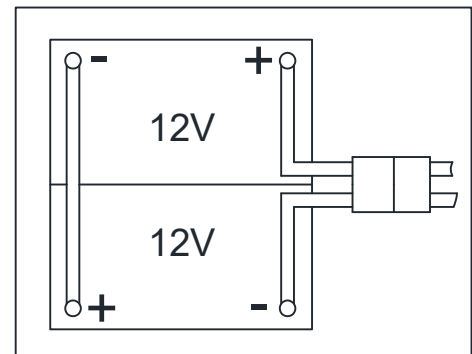

Figure 3
The machine requires two 12 V batteries, connected according to the diagram (Figure 3).
1. Open the recovery tank cover (1) and check that the recovery tank (25) is empty; otherwise empty it with the drain hose. (22)
2. Close the recovery tank cover (1).
3. Overturn the recovery tank (25) carefully.
5. Route and install the battery cable as shown in (Figure 3), then carefully tighten the nut on each battery terminal.
6. Place the protection cap on each terminal, then connect the battery connector (54).
7. Carefully lower the recovery tank (25).